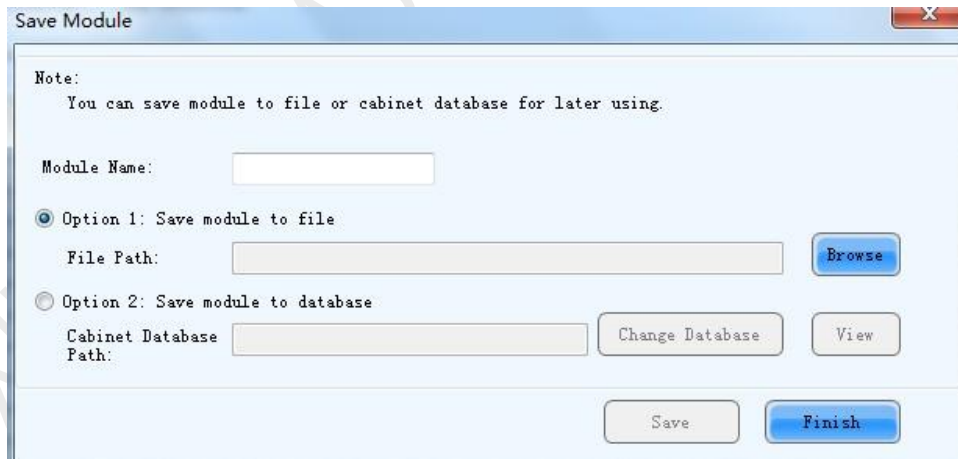

Figure 4 Save Module dialog
3. Click *Save Module* button on the Details Of Module page to open the *Save Module* dialog. The dialog is as shown in Figure 4.